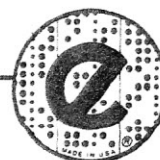

Figure 3-7. Multi-Copy Tear-off Diagram
- (1) Place thumb of left hand on printer cover while holding the papers *feeding* the teleprinter with fingers of the same hand. See **Figure 3-7**. (This will keep paper from feeding through the machine as tension is created on it during the tearing-off process.)
- (2) While pressure is being applied with the left hand, grasp paper at left corner with right hand and **PULL SMARTLY FORWARD AND TO THE RIGHT** against the cutting edge of the viewing window, as illustrated in **Figure 3-7**. The resulting separation will be straight and parallel to the lines of copy.